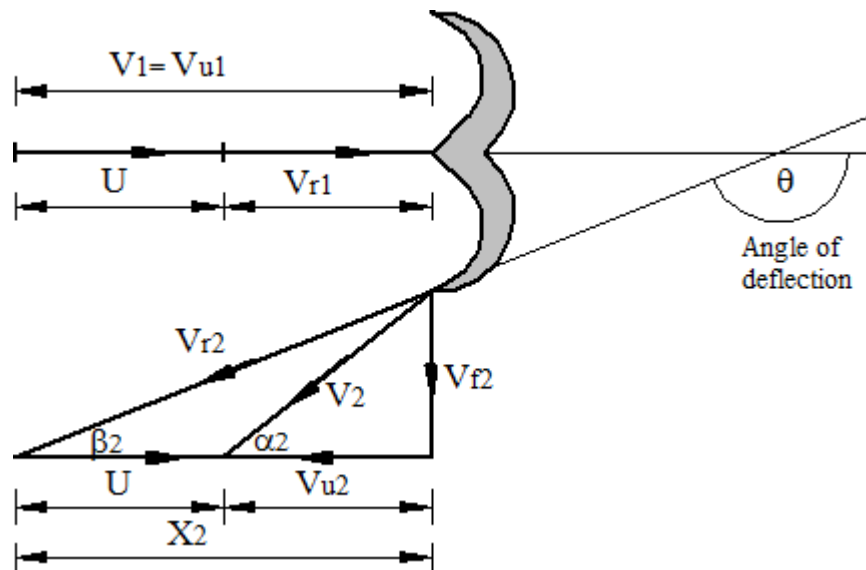

Fig. 5.2 Velocity triangles for Pelton wheel turbine
**Answer:** The inlet and outlet velocity triangles for Pelton wheel turbine is as shown in figure 5.2. As the runner diameter is same at inlet and outlet, tangential velocity of wheel remains the same. In practical case the relative at the outlet is slightly less than that at inlet due to frictional loss over the inner surface of the bucket. Some velocity is also lost due to the jet striking over the splitter. Hence  $V_{r2} = C_b V_{r1}$ , where  $C_b$  is bucket velocity coefficient.